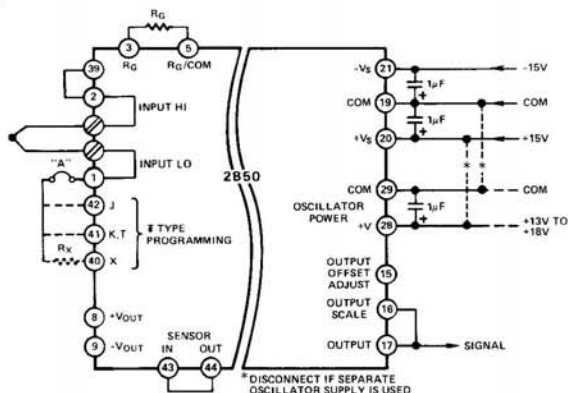

Figure 2. Basic 2B50 Application
The connections shown in Figure 2 are common to most applications using the 2B50, and, in many cases, will be all that is required.
Two sets of parallel thermocouple input connections are provided. The thermocouple input may be connected by screw terminals (Input+, Input-) or to terminal Pins 1(-) and 2(+) in cases where thermocouples are to be remotely terminated. The following sections describe a basic thermocouple application, as well as detail some optional connections to enhance performance in more demanding applications. Jumper A (Figure 2) is used to disconnect cold junction compensation circuitry during offset adjustments.
The gain of the 2B50 is set by a user-supplied resistor ( $R_G$ ) connected as shown in Figure 2. Gain will normally be selected so that the maximum output of the signal source will result in a plus full scale output swing. The resistor value required is determined by the equation:  $R_G = 200k\Omega / (G - 1)$ .
2. Disconnect cold junction compensation circuitry by removing Jumper "A" (Figure 2).